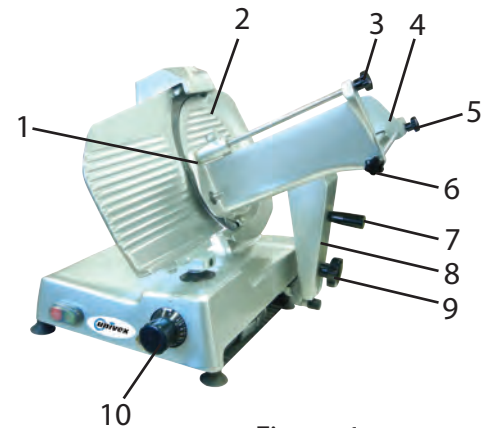
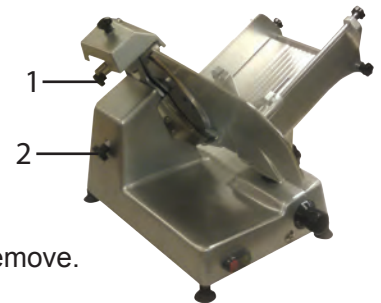

Figure 1
Figure 2
Warning: The protective guard (refer to overview p. 3 [5]) covers the knife edge completely except at the forward edge where slicing will be performed. This forward edge is covered by the edge of the fence, but only when the slice adjustment is completely closed. The knife guard (refer to overview p. 3 [6]) can be removed for cleaning by unscrewing the knife guard knob (refer to Figure 2 [2]). For safety, keep the knife guard on at all times except when cleaning. Never operate the slicer with the knife guard removed
1. Turn slice adjustment knob (Figure 1 [10]) to the fully closed position (beyond “0”) so that the knife edge is not exposed.
2. Remove the following items to disassemble the slicer (Figure 1 & 2):
a. Last Slice Device Shaft: Unscrew knob and shaft (Figure 1 [3]) counter-clockwise from carriage and through Last Slice Device (Figure 1 [1]) to remove and set aside.
b. Adjustment Spacer Shaft: First loosen Adjustment Spacer Knob (Figure 1 [5]). Now unscrew the Adjustment Spacer Shaft (Figure 1 [6]) counter-clockwise to remove and set aside. Adjustment Spacer (Figure 1 [4]) can now be removed and set aside.
c. Carriage Arm Handle: Loosen and remove the black handle (Figure 1 [7]) and set aside.
d. Carriage Arm: Loosen the Carriage Arm Knob (Figure 1 [9]) and set aside for cleaning. Pull straight upwards on the Carriage and Arm (Figure 1 [8]) and set the Carriage Assembly aside.
e. Sharpener Assembly: Unscrew sharpener locking pin (Figure 2 [1]) and remove sharpener by pulling upwards. Use caution around blade edge.
f. Blade Guard: Loosen the Blade Guard Knob and shaft (Figure 2 [2]) and remove. Set aside for cleaning. Carefully remove the Blade Guard (Figure 1 [2]) and set aside. Be careful when working around the blade edge.
- 3 Adjust the Thickness Control Dial (Figure 1 [12]) to beyond "0". This will ensure that the blade edge is not exposed to the operator.